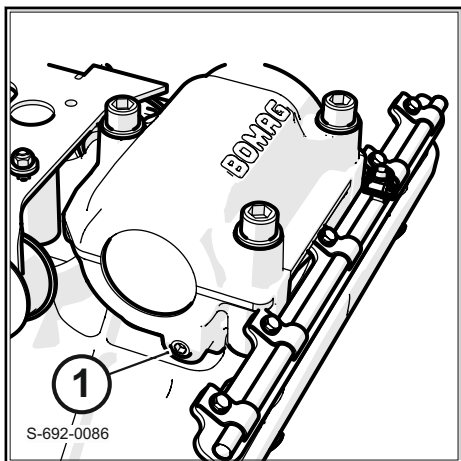

Fig. 87
1. Insert the oil drain plug (1) ↪ Fig. 87 with sealing compound.